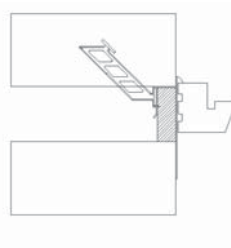

Fig.3
- When installed in conjunction with the cavity closer, the back edge of the window/door frames should be set back at least 30mm behind the inner face of the outer leaf to meet thermal requirements (see fig.3) whilst ensuring that the front edge of the frame remains over the outer leaf. (A smaller set-back may be possible if a satisfactory hygrothermal assessment using BRE Information Paper IP/06, shows that thermal requirements are met). The junctions between the wall and the front and back of the window/door frame must be effectively sealed.